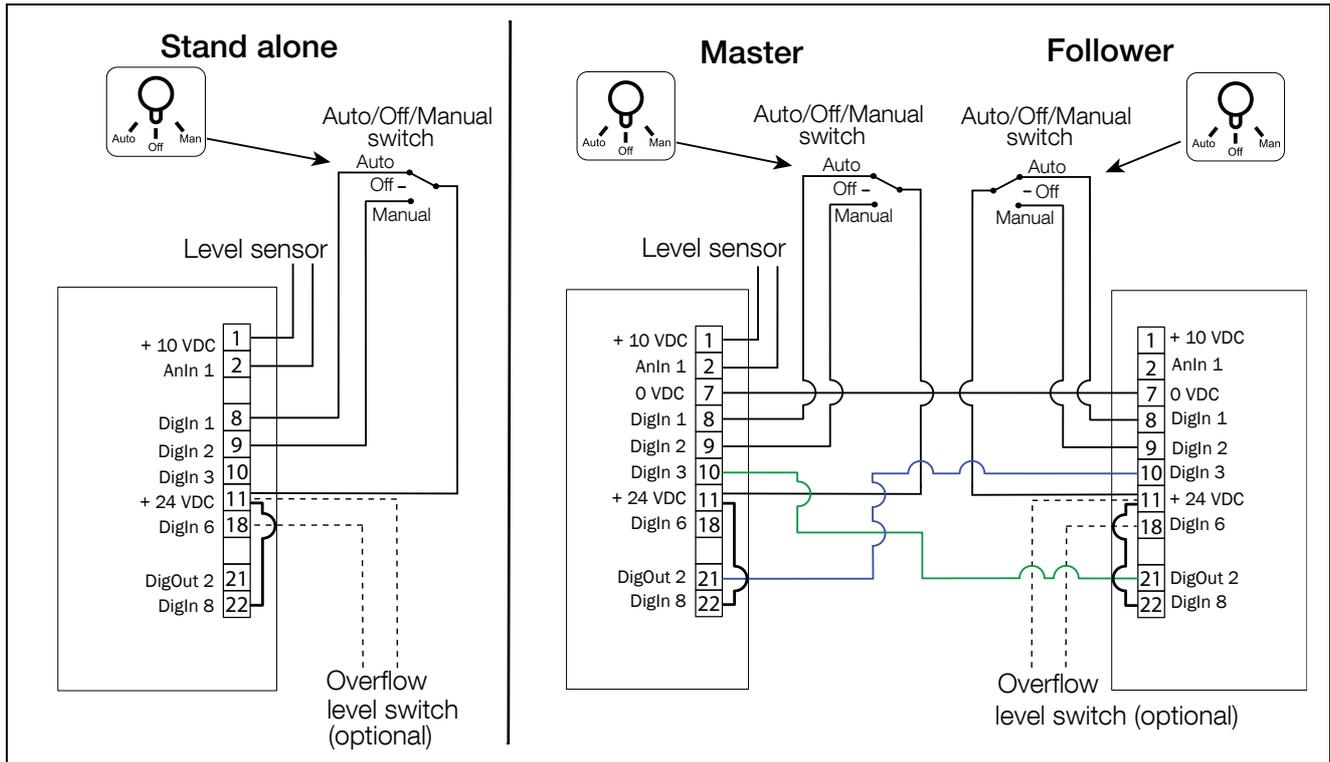

Fig. 39 General control I/O, minimum wiring.
1. Connect a level sensor between terminals 1 (+10 VDC) and 2 (AnIn 1) as in Fig. 39 The default setting for the AnIn1 is 4-20 mA. If the level sensor has a 0-10 V interface, change the position of switch (S1) on control board (Table 18).
2. Connect an external Auto run switch between terminal 11 (+24 VDC) and 8 (DigIn1, Flow Auto) as in Fig. 39. Set the switch in the open position (digital input set to low state). (Do not activate the signal at this point.)
3. Connect an external Full speed switch between terminal 11 (+24 VDC) and 9 (DigIn2, Flow Run) as in Fig. 39. Set the switch in the open position (digital input set to low state). (Do not activate the signal at this point.)
4. Connect a communication cable between Master terminal 10 (DigIn3) and Follower terminal 21 (DigOut2) as in Fig. 39. (Only if Master/Follower).
5. Connect a communication cable between Master terminal 21 (DigOut2) and Follower terminal 10 (DigIn3) as in Fig. 39. (Only if Master/Follower).
6. Connect an overflow level switch (optional) between terminal 11 (+24 VDC) and 18 (DigIn6, Lvl Overflow) as in Fig. 39 Connect the signal to the Follower drive instead in a Master-Follower configuration for redundancy.